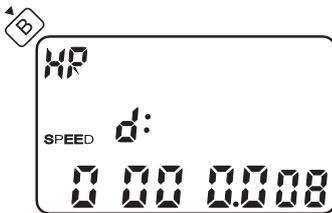

Fig. 14
- The AVERAGE calculation and BEST record do not take into account the last section of time before STOP. Therefore, in order for the stopwatch to keep track of the average and best records of all Laps, always use the B button until the end of the race. Pressing D again will go to the next race records or return to the 1st race records (if there is no further race). In the CHRONO MODE before the start of a race, such as in Fig.7, push and hold B for 2 seconds will go to the SPEED SET mode as is shown in Fig.14. The first digit in the lowest row is flashing to indicate setting of the thousandth digit of distance.